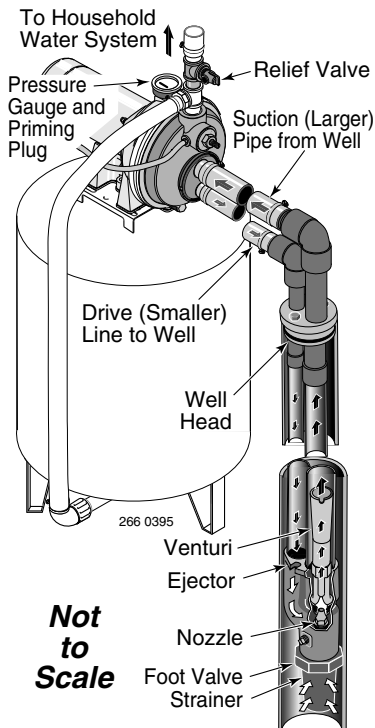

Figure 10: 4" and Larger Deep Well
4" OR LARGER WELL (Figure 10)
2. Assemble ejector kit FP4800 or 29660 (sold separately). See Figure 10. Follow the instructions included with the kit in order to match the nozzle and venturi to your well conditions.